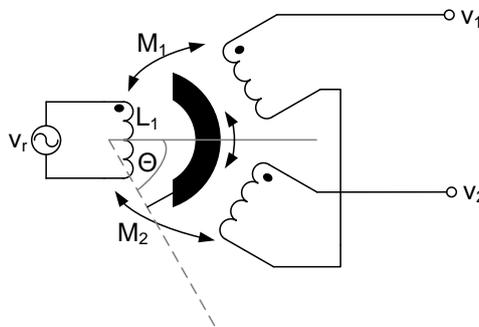

Figure 1: Measuring an angle using an RVDT.
ESP assists a driver to keep a vehicle on the road during dangerous driving conditions. For this purpose, the ESP system uses a large number of sensors in the vehicle. One of these sensors measures the angle of the steering-wheel and steering-column and the speed with which the driver changes this angle (note that one sensor measures both quantities). The RVDT (rotary variable differential transducer) from Figure 1 can be used to measure the angle (and its rate of change). When the driver moves the steer from the central position ($\Theta = 0^\circ$) to the left or to the right, then this will lead to a change in the output voltage of the sensor. This electrical signal can then be send to the ESP computer. The primary winding of this RVDT is connected to a voltage supply that produces a sinusoidal voltage with an amplitude of 5V with a frequency of 10 Hz. The RVDT has a sensitivity S of $100 \mu\text{V}/(^\circ/\text{V})$. The output voltage of the RVDT is equal to:
- (b) The signal coming from the RVDT is too weak to be directly send to the ESP computer. The signal should first be amplified. For this purpose, the sensor from Figure 1 is connected to an instrumentation amplifier. The resulting circuit is shown in Figure 2. The instrumentation amplifier uses three operational amplifiers. You may assume that these op-amps show an ideal behaviour. Show that the output voltage v_o of the instrumentation amplifier in Figure 2 is equal to: